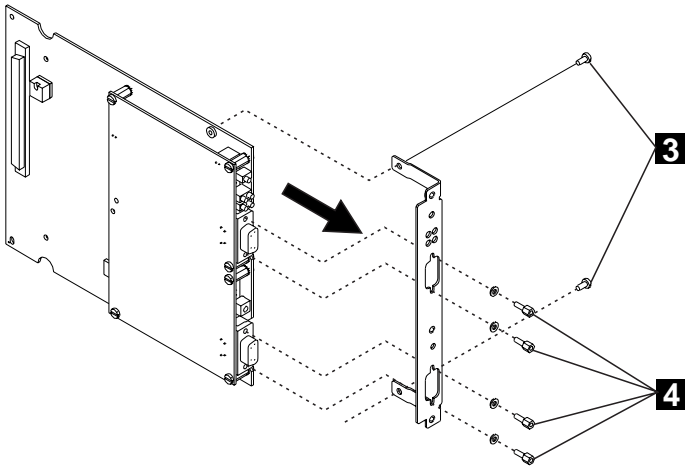

Figure 4-6. Removing the Faceplate Bracket
- c** Remove the faceplate bracket from the motherboard by removing the screws and posts (**3** , **4** in Figure 4-6). Retain the screws, the posts, and the bracket.